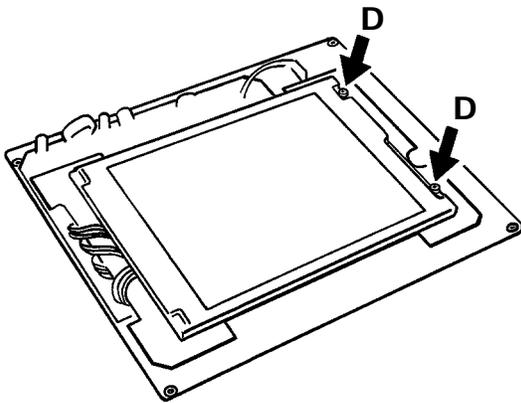
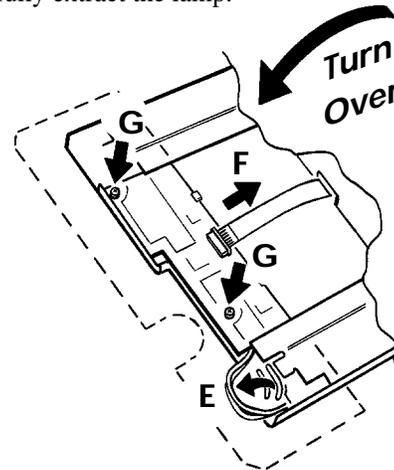

Figure 4.13.1g Remove securing screws
Figure 4.13.1h Circuit board removal (1)
- Remove securing screws ('D' in figure 4.13.1g) and turn the display unit over to reveal the circuit board (figure 4.13.1h).
- Gently lift the wires out of their channels (E in figure 4.13.1h), remove the flexi-cable ('F') and remove the circuit board retaining screws ('G').
Reassembly is the reverse of the above process. When re-fitting the circuit board, ensure that the wires lie neatly in their channels ('E' in figure 4.13.1h above) or early failure will result.